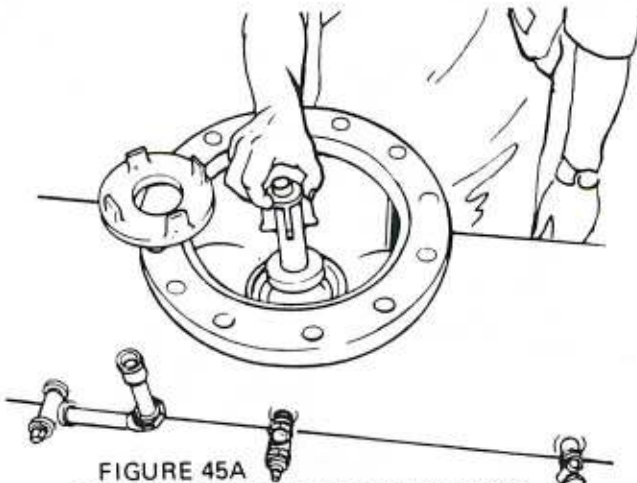

FIGURE 45A
12. Remove the spacer, upper disc (6), and guide (5) (Fig. 45A). Using a seat wrench, remove the upper seat (4).
13. Remove clamp nut (14), diaphragm plate (13), and diaphragm (12) from inside spacer (11).